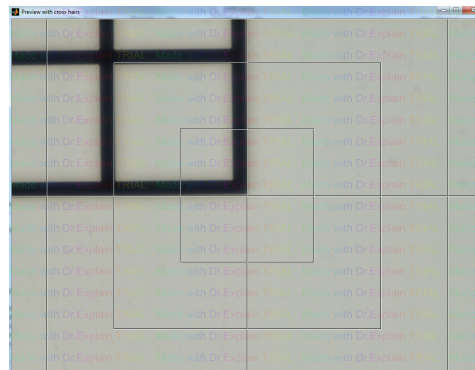

Figure 2
6. Use your hand to adjust the camera to make the reticle in camera image just touch the same boundary of the gird corner.(Figure 2)